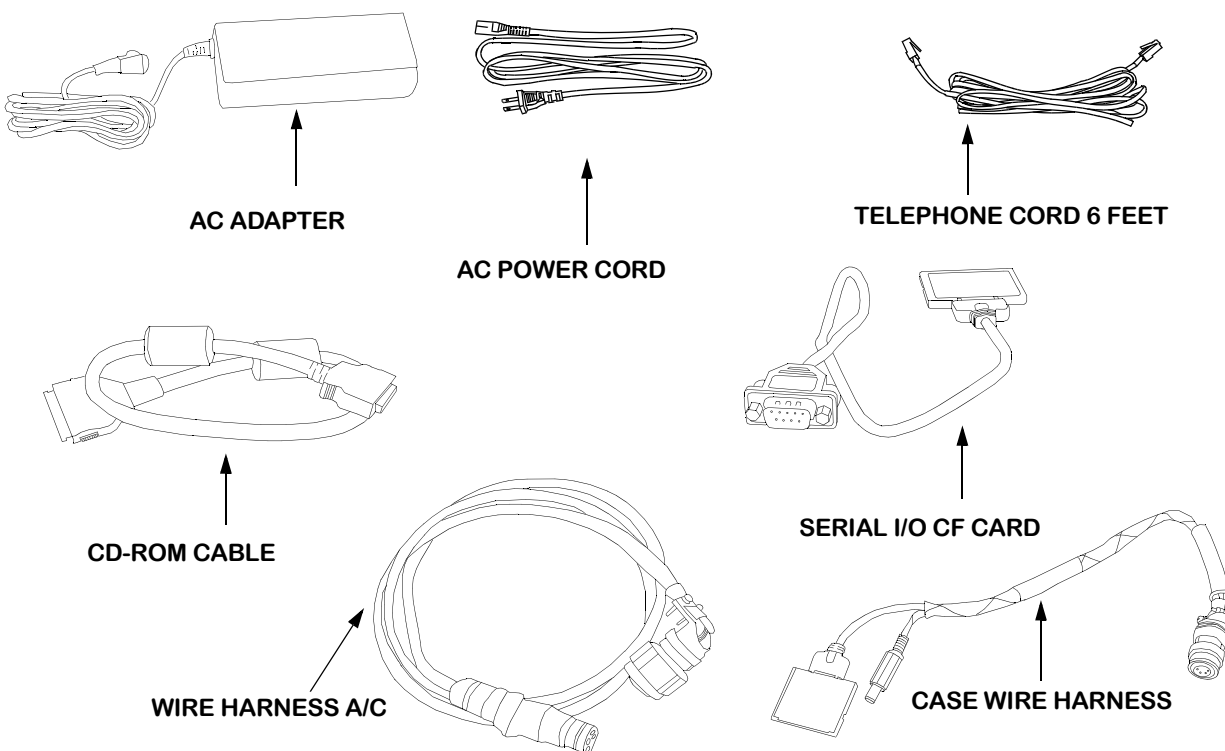

Figure 1 Cable Identification
2.2 Interconnecting Cables/Devices. For installation, each cable and device is identified by a part number. Use Table 3 as an inventory list of external interconnecting cables, power cords, and devices. Table 3 also indicates point-to-point connections. If needed, refer to this table while performing installation procedures. Refer to Figure 1 for cable, cord, and device identification.